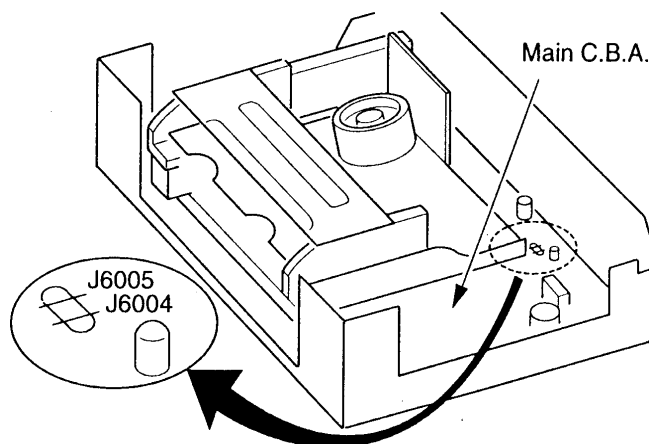

Fig 18 - Electrical Method (2)
1. Locate the jumper (J6004) on the system control section of the Main circuit board and cut it near the center (Fig. 18).